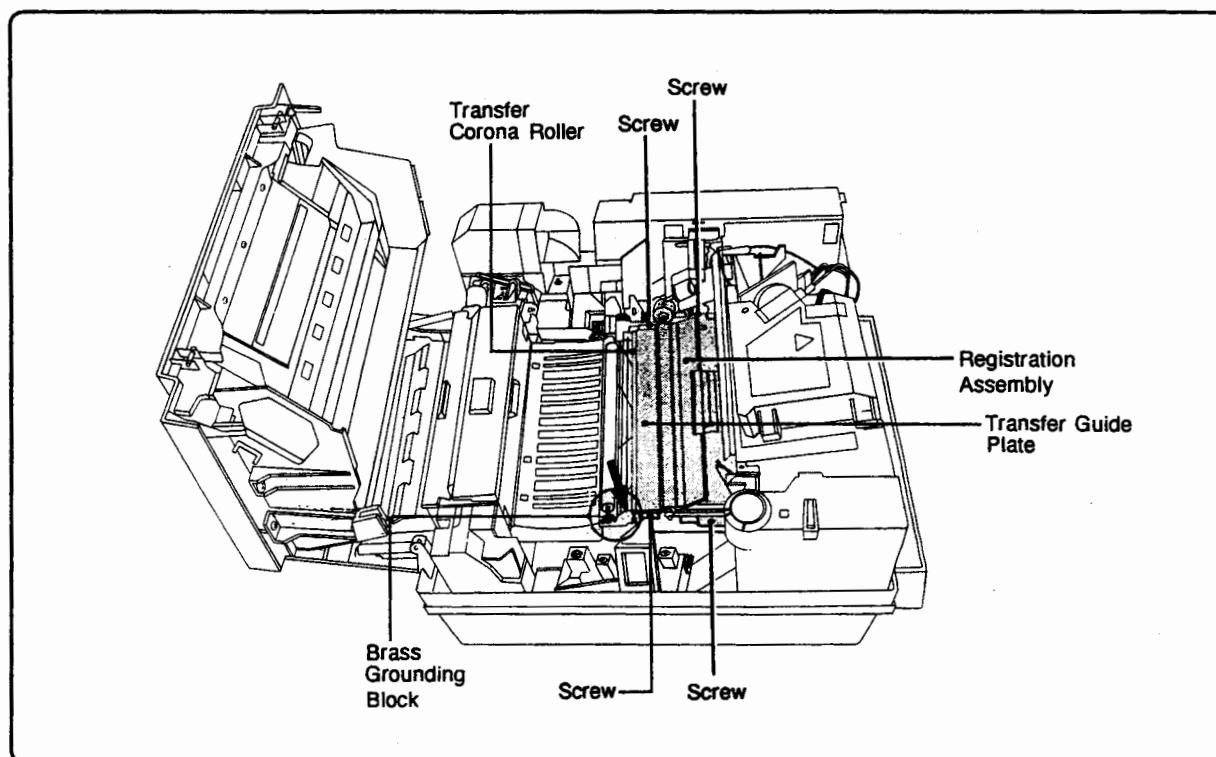

Figure 6-29. Registration Assembly
2. Remove the screws (2) securing the rear of the assembly and the screws (2) securing the Transfer Guide Plate and the front of the assembly.
3. Lift the Registration Assembly (see Figure 6-29) up and out.